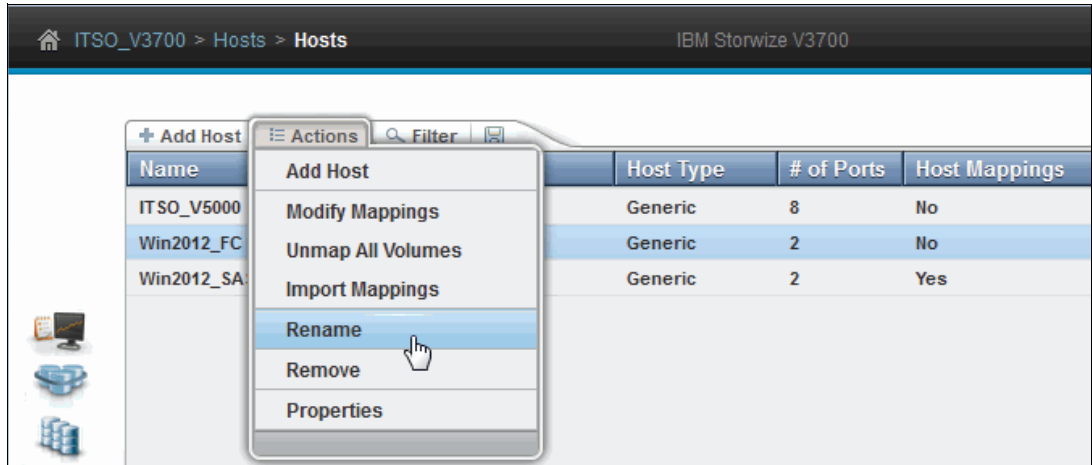

Figure 8-16 Renaming a host
1. Select the host and, from the Actions menu, click **Rename**, as shown in Figure 8-16.